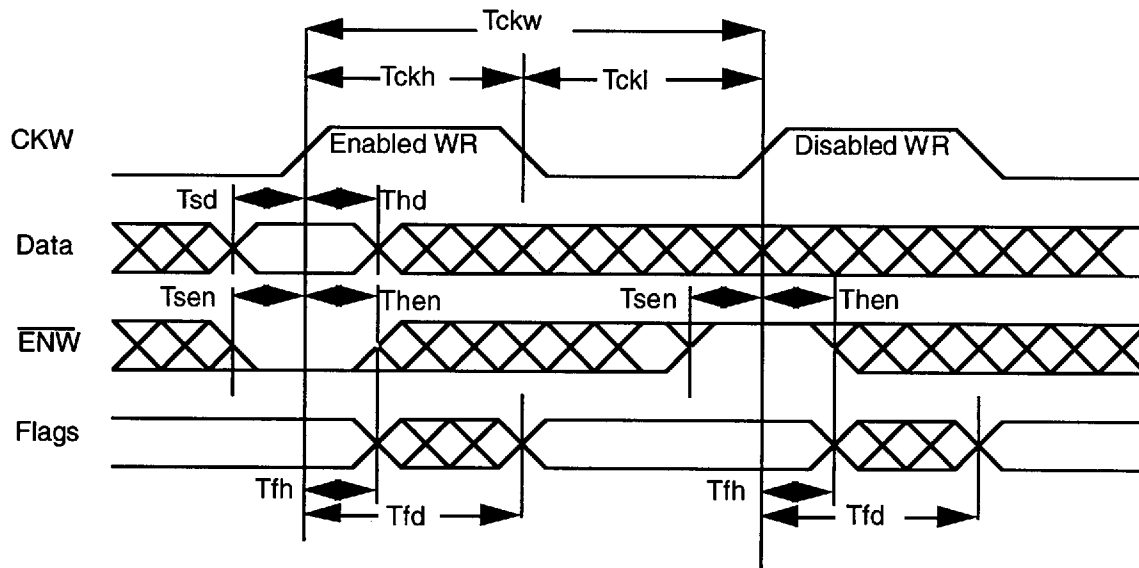

Figure 1. Write Timing
(1) Test conditions: input switching levels $V_{IL}/V_{IH}=0.5V/V_{DD}-0.5V$ (CMOS), $V_{IL}/V_{IH}=0V/3V$ (TTL), input rise and fall times <1 ns/V, input and output timing reference levels shown in the Tester AC Timing characteristics Table, capacitive output loading $C_L=50$ pF. For $C_L >50$ pF, derate access times by 0.02 ns/pF (typical).
(2) Worst case operating conditions: $V_{DD}=4.5V$ to $5.5V$, $TC=-55^\circ C$ to $+125^\circ C$, post total dose at $25^\circ C$.
(3) For flag updates, tskew1 is the minimum time an opposite clock can occur after a clock and still not be included in the current clock cycle. At less than tskew1, inclusion of the opposite clock is arbitrary.
(4) For flag updates, tskew2 is the minimum time an opposite clock can occur before a clock and still be included in the current clock cycle. At less than tskew2, inclusion of the opposite clock is arbitrary.
(5) Timing parameters are defined in Figures 1 through 6.